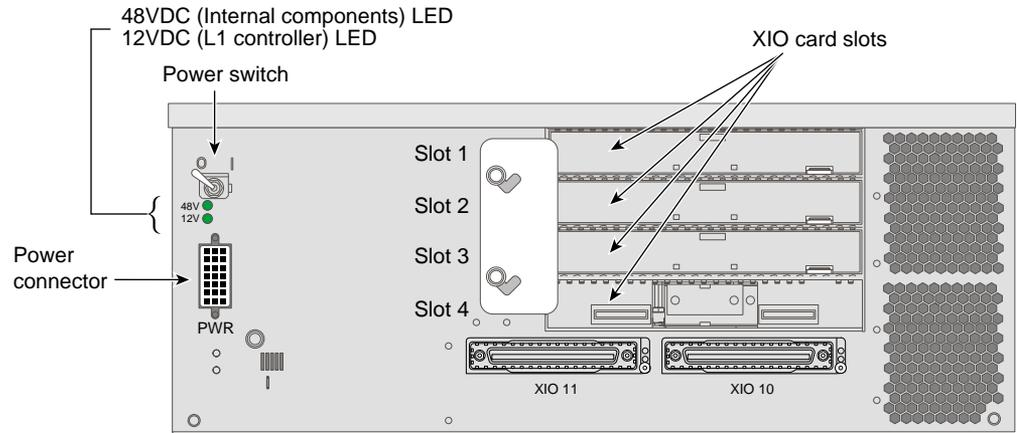

Figure 6-3 Rear Panel of X-brick
The X-brick has the following rear-panel components (see Figure 6-3).
- **XIO card slots.** These slots seat the XIO cards. The slots are numbered 1 through 4 as shown in Figure 6-3. Each slot can seat one XIO card with power levels up to 50 W.